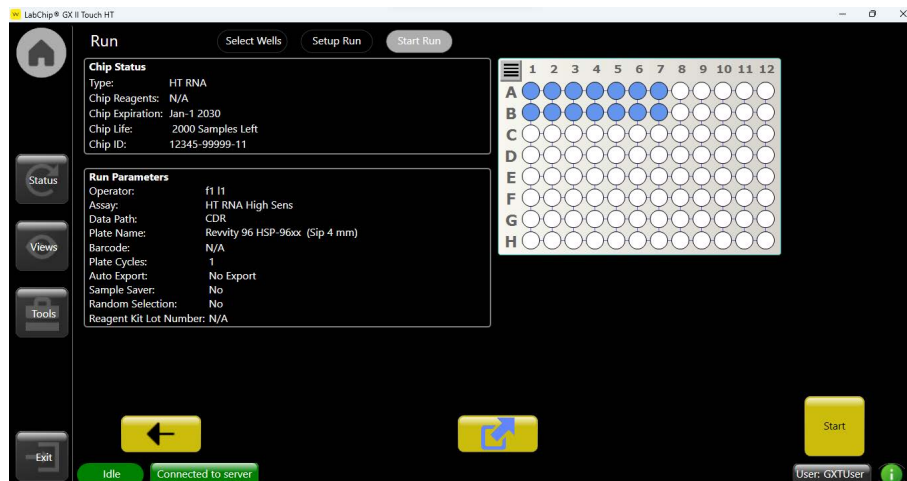

Figure 11. Start Run Tab
- 6 Touch the **Green Arrow** button. The Start Run tab (Figure 11) opens.